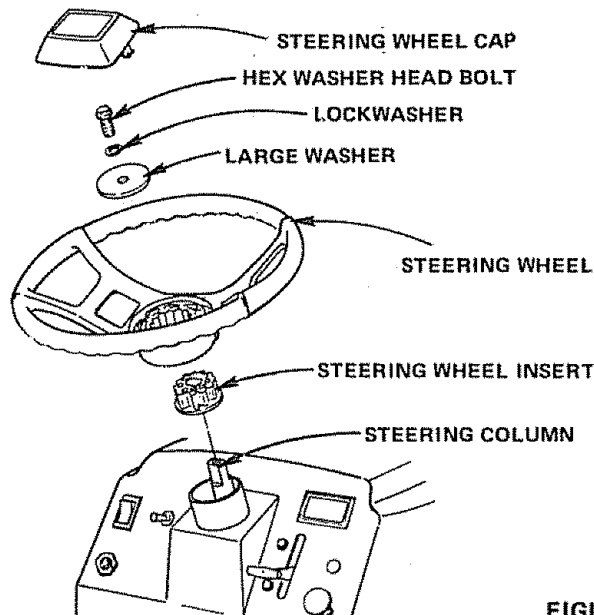

FIGURE 5
- Remove Hex Washer Head Bolt, Lockwasher and Large Washer from Steering Column (Fig. 5).
- Secure Steering Wheel to Steering Column using Hex Bolt, Lockwasher and Large Washer (Fig. 5).